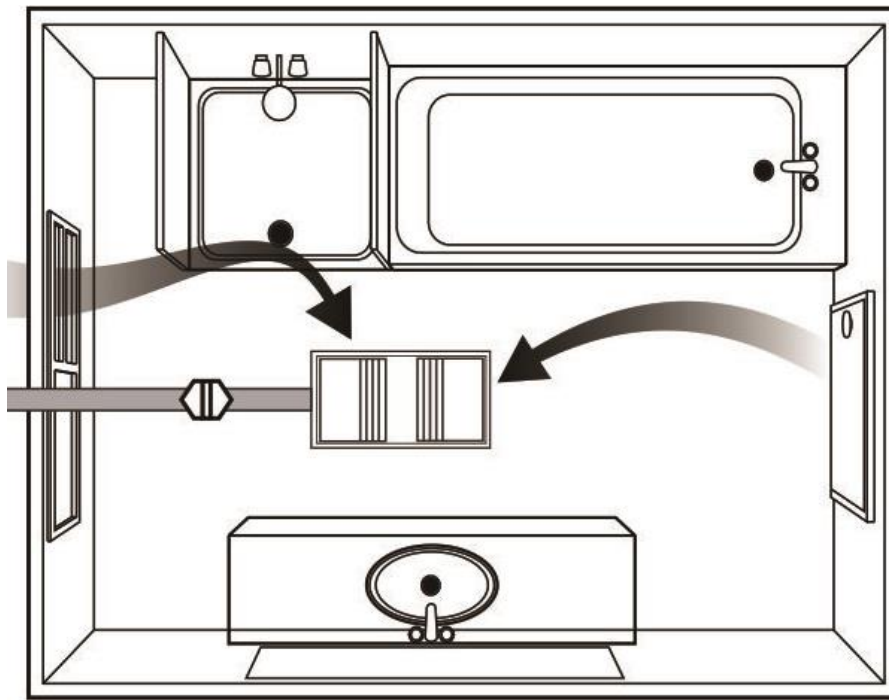

Fig. 3
1. Locate a suitable location in which you wish to install the heater. Note it should not be in an area where the product may come in contact with water such as above a shower or bath. The centre of a room is ideal. (Fig. 3)